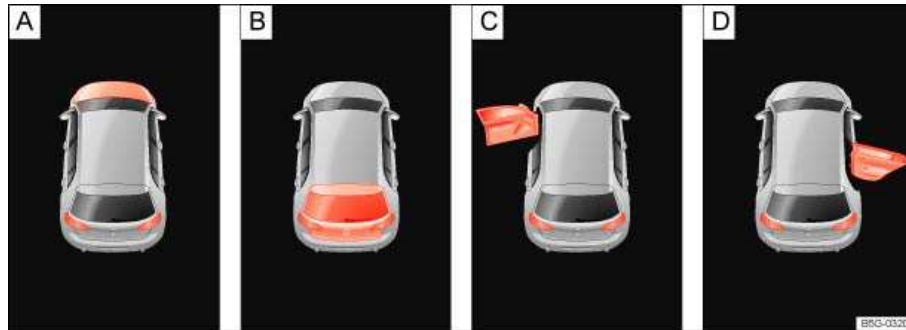

Fig. 10 In the instrument cluster display: A: Open engine hood, B: Open rear hatch, C: Open front driver side door, D: Open rear passenger side door.
- Open doors, engine hood, or rear hatch ⇒ fig. 10